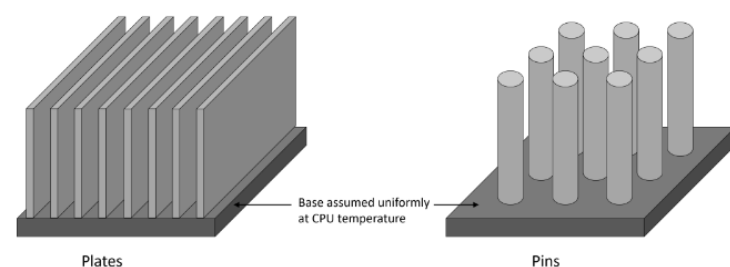

Figure 1: Finned heat sink shape options; number of fins is your choice.
4. Design a finned heatsink to keep a CPU cool. The heatsink must transfer $\dot{Q} = 14$ W of heat to the air while keeping the CPU at or below $T_{max} = 64$ °C. The air is at $T_a = 25$ °C and is moved with a fan to create a heat transfer coefficient of $h = 24$ W/m²-K. The base of the heatsink, which you can assume is uniformly at the CPU's temperature, is a square with side length $W = 0.025$ m. The fins' maximum length is $L_{max} = 0.025$ m. The heatsink can be made from any common material, and the fins can be either flat plates (same width as the base) or pins (i.e., cylinders) as sketched in Fig. 1.